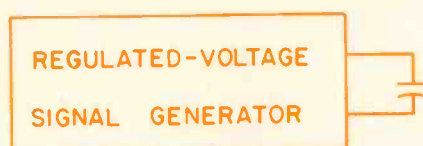

Fig. 2 — A capacitor is connected to the output of a regulated-voltage signal generator.
When a capacitor is connected to a regulated-voltage signal generator (Fig. 2), the current (I) flowing through the capacitor leads is dependent on the capacitor's reactance (X_C),